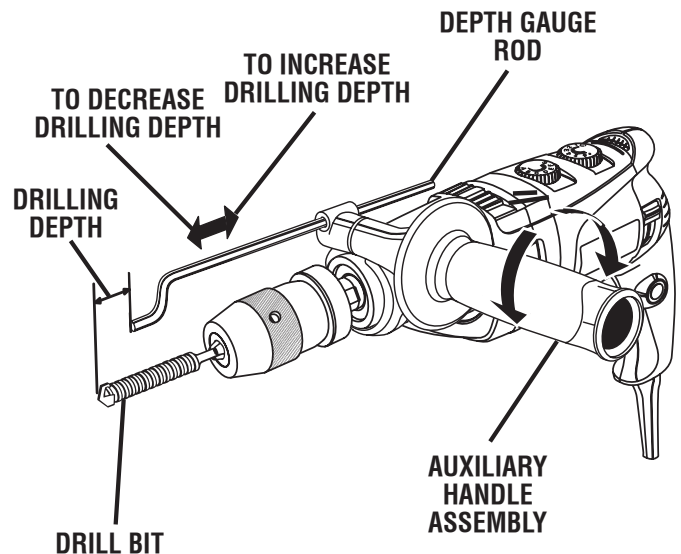

Fig. 3
See Figure 3.
- Insert the depth gauge rod as shown in figure 3.
This drill has a keyless chuck. As the name implies, you can hand tighten or release the drill bit in the chuck jaws. To loosen, grip the chuck collar and turn the chuck body counterclockwise. To tighten, grip the chuck collar and turn the chuck body clockwise. The arrows shown in figure 3 indicate which direction to rotate the chuck body in order to **GRIP** (tighten) or **RELEASE** (unlock) the drill bit. To lock or unlock the chuck, turn the chuck collar opposite the direction of the arrows while gripping the chuck body.